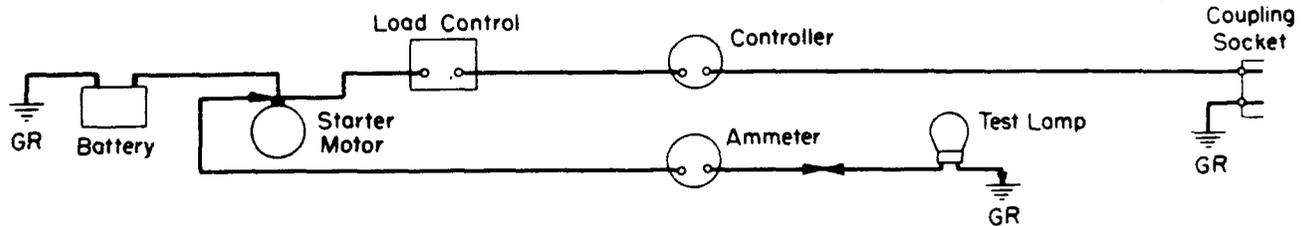

Fig. 2
6.01 Determine whether the "plus" or the "minus" side of the truck storage battery is grounded. If the "plus" side is grounded connect one lead from the test lamp to the lead from the "plus" terminal on the ammeter; otherwise connect it to the lead from the "minus" terminal. Connect the other lead from the test lamp to a good ground on the truck. Then connect the remaining lead of the ammeter to the battery-to-starter terminal on the starter. See Figure 2.